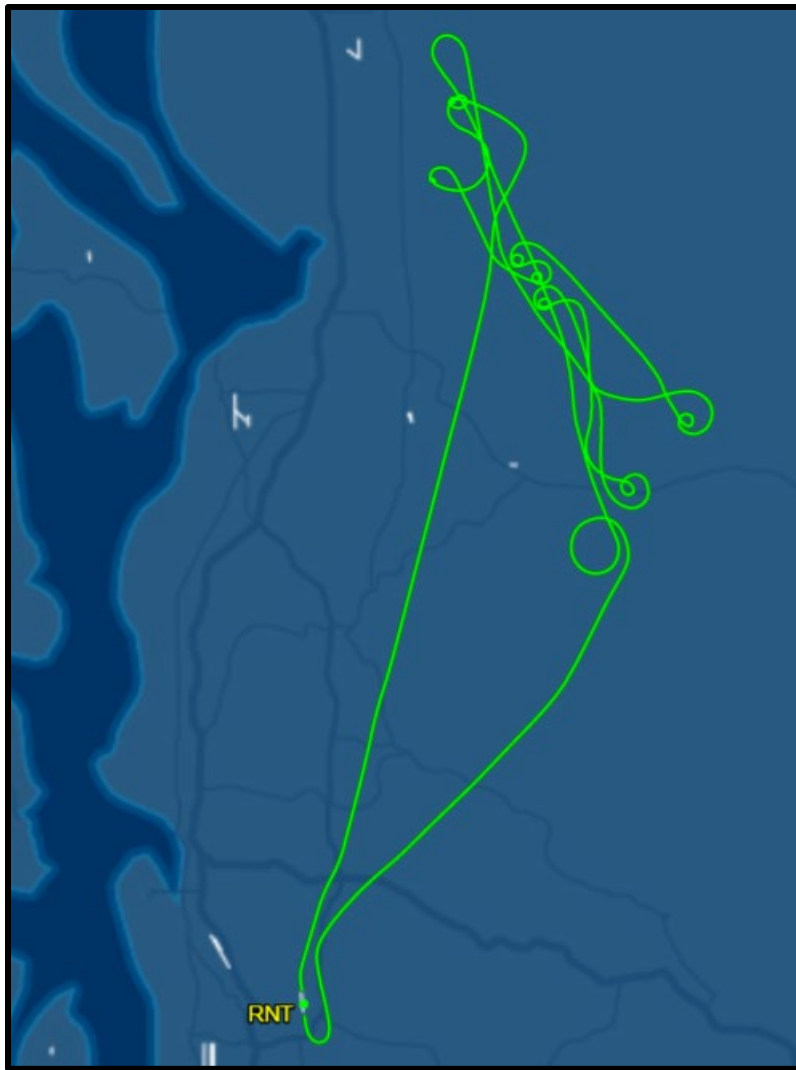

Figure 2: Flight Track
Flight 7 was the last flight recorded the day before the accident flight. The purpose of the flight was to evaluate the airplane's aft center of gravity (CG) stall characteristics. The flight departed Renton City Municipal Airport (RNT) on northbound heading to an uncongested area in Snohomish County to complete the planned series of stalls (See Figure 2). During the flight, 10 of 12 stalls were performed on the flight test card (See Figure 3). The maneuvers were to be performed between 8,000 and 10,000 ft mean sea level (MSL). All 10 maneuvers were executed with the yaw damper (Y/D) and autopilot (AP) off. The first 4 stalls were straight ahead and the remaining 6 stalls were in a 30° banked turn to either the left and right, with the flaps in the UP and Landing positions.